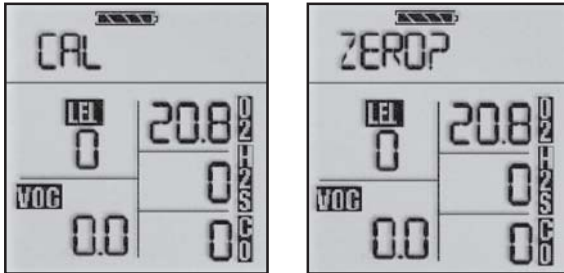

Figure 18: Zero Flag
3. Push and hold the RESET/▼ button until **CAL ZERO?** flashes on the display (Figure 18).